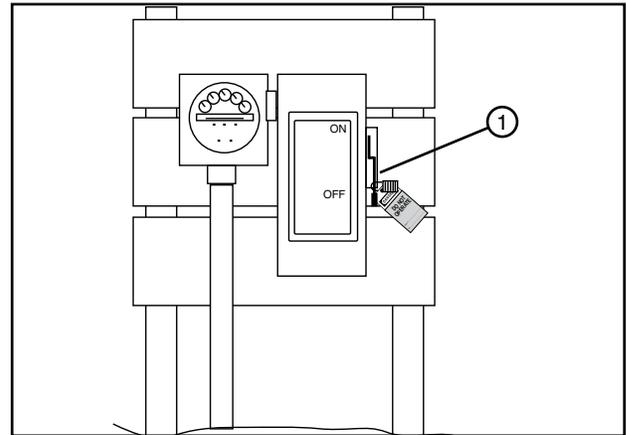

Figure 53-1 1. Public Power Service Disconnect
1. SHUT OFF and LOCK the public power service disconnect to the irrigation machine. See figure 53-1.
FILL OUT the blue (OSHA safety color code) tag and attach to the disconnect after locking. See figure 53-1.